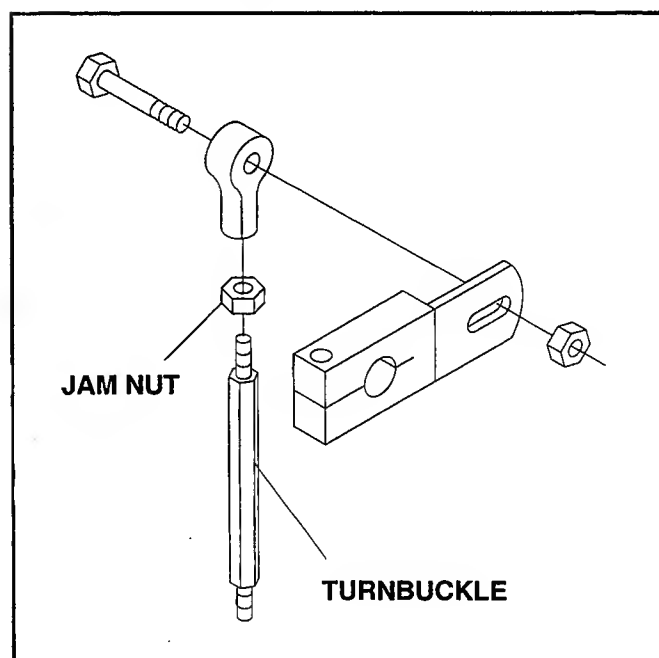

Figure 8
4. Adjust each drive wheel separately by using the turnbuckles. Loosen jam nut on turnbuckle. (See Figure 8)